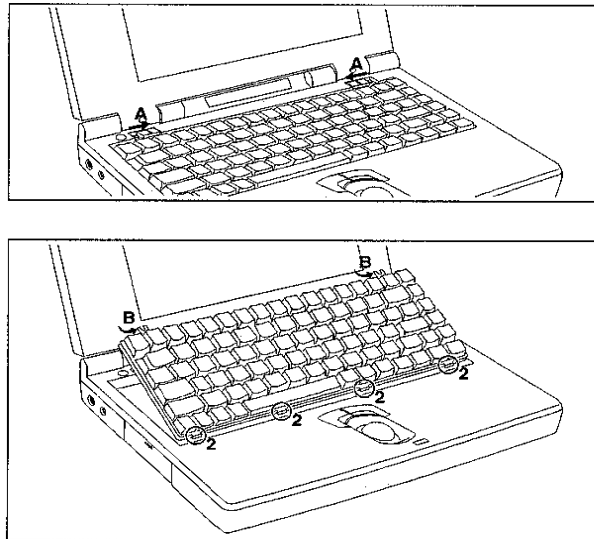

Figure 7-2-1. Keyboard Disassembly/reassembly
2. Slide the two keyboard latches inward ( Figure 7-2-1 Arrow A )
3. Pry up the metal tabs ( Figure 7-2-1 Arrow B ) and lift the keyboard.
2. Insert the four lower hooks ( Figure 7-2-1 #2 ) to the chassis at an angle and then lay down the keyboard.